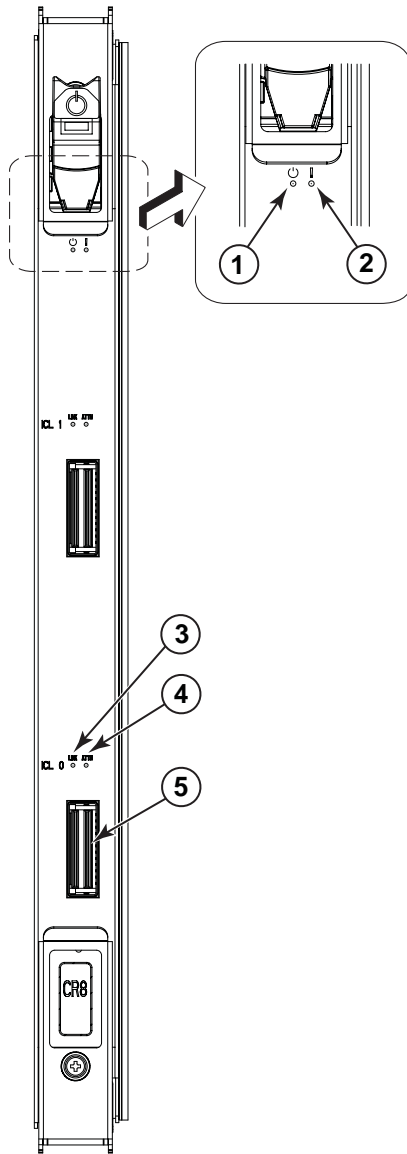

Figure 13. Core switch blade (CR8) LEDs
1. Check the LED indicators on the core switch blade (Figure 13 on page 40). The LED patterns may temporarily change during POST and other diagnostic tests; for information about how to interpret the LED patterns, see Table 7 on page 40.
Figure 13 on page 40 identifies the core switch blade.